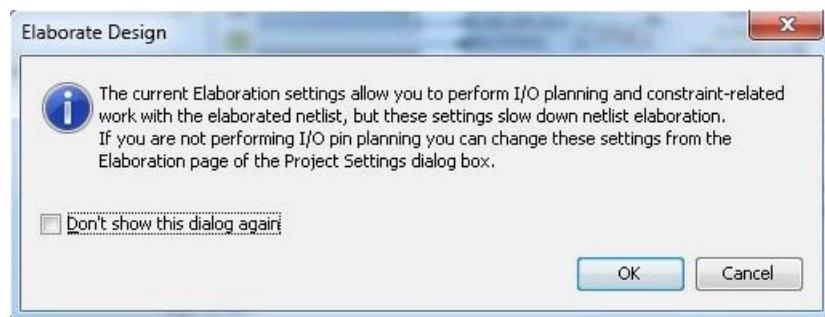

Figure 3-7: Elaborate Design Message Box
26. When the Elaborate Design message box opens, as shown in Figure 3-7, click **OK**.